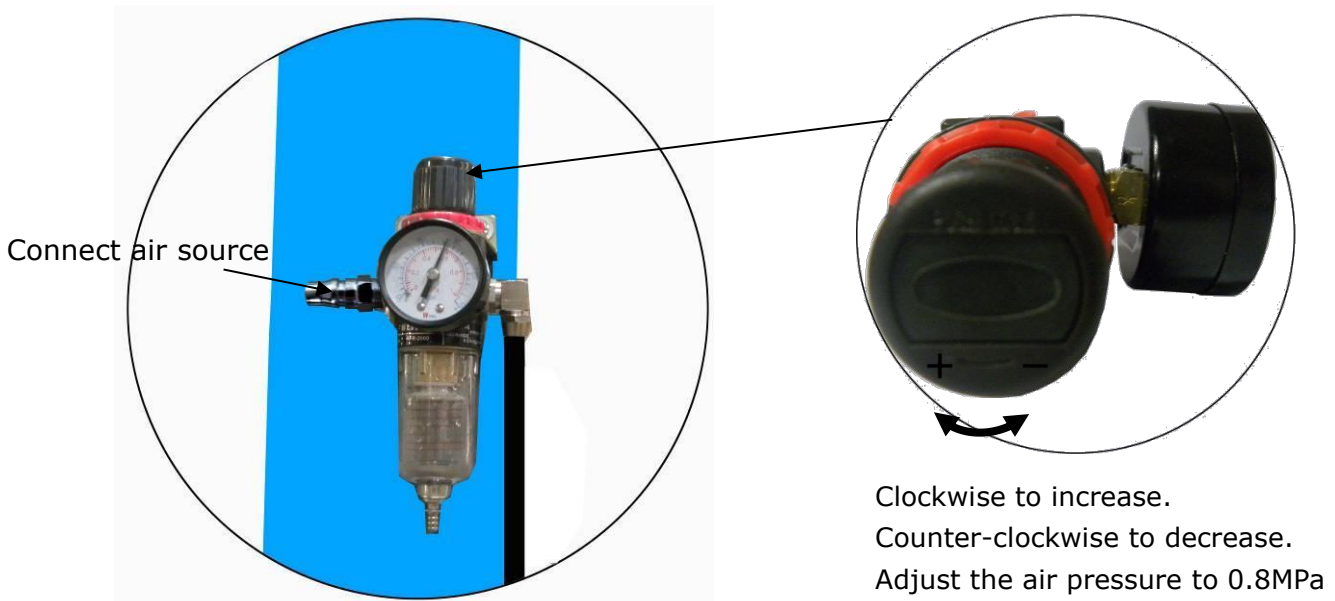

Fig.33
5. Connect to the air source , adjust the air pressure of oil-water separator to 0.8 MPa (See Fig. 33) .